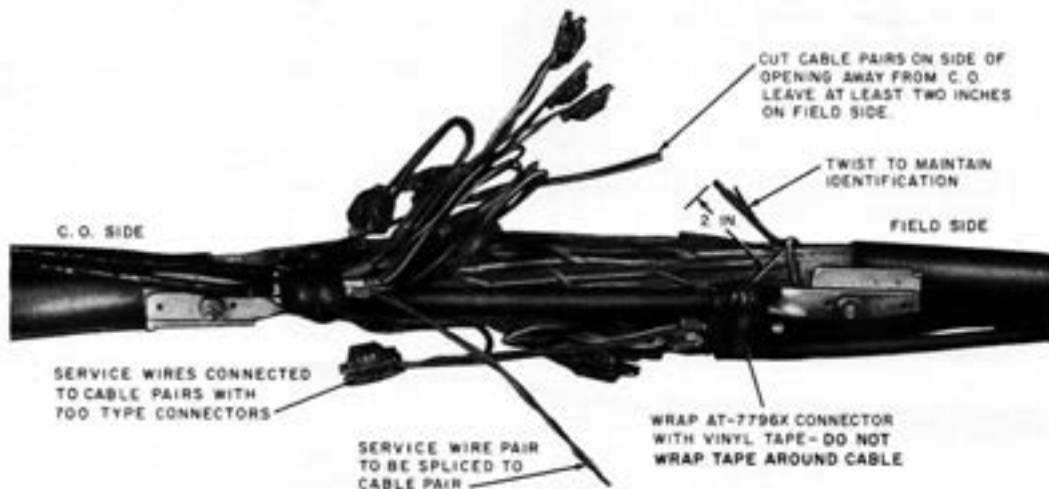

Fig. 5—Splicing Cable Pairs—13-Type Closure
3.03 Splice the service wire to the cable pairs using 700-type connectors *only*, as shown in Fig. 5 or 6.†